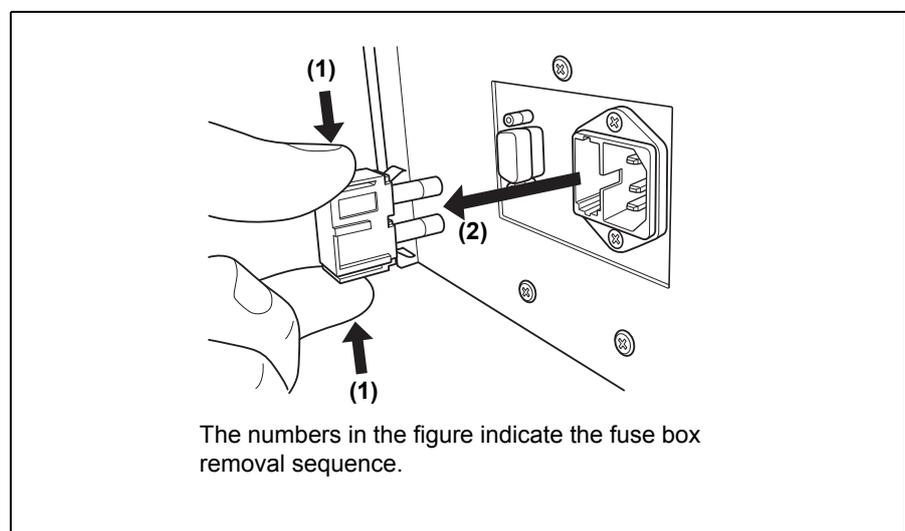

Figure 4.4
4. Push the tabs on the fuse box in the directions shown and take out the fuses (see Figure 4.4).